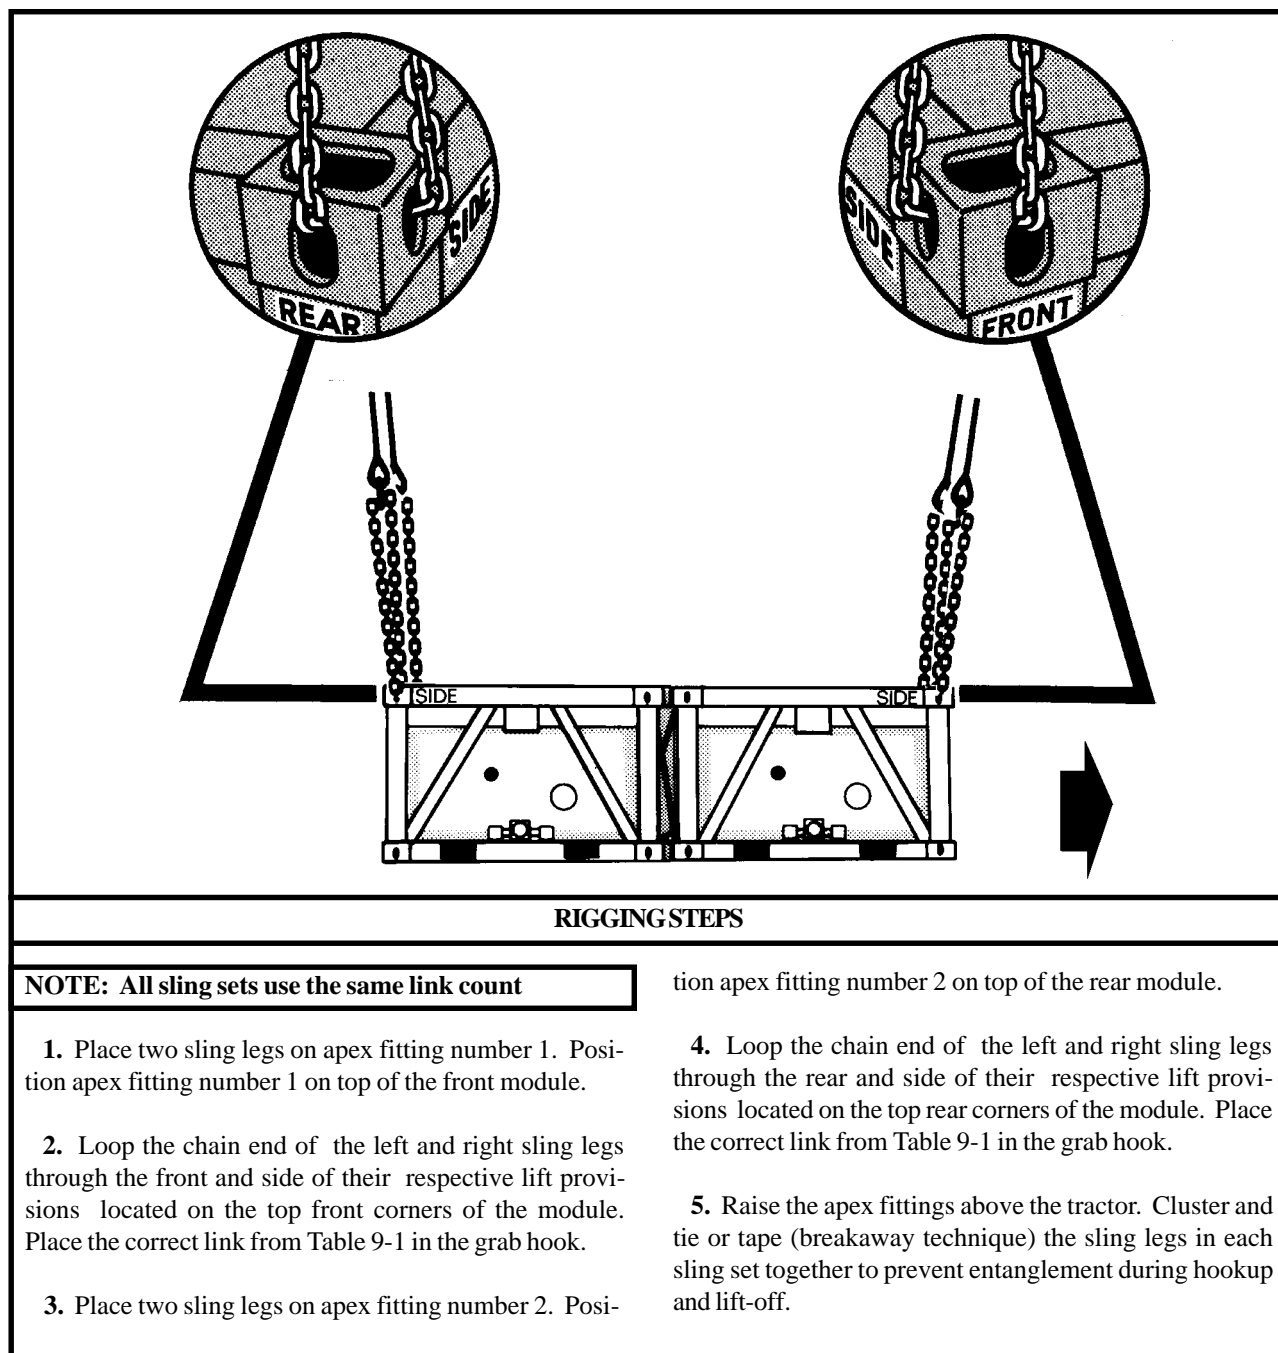

Figure 9-1. Two Storage Modules, Fuel/Water (Side by Side)
(2) **Rigging.** Rig the load according to the steps in Figure 9-1.